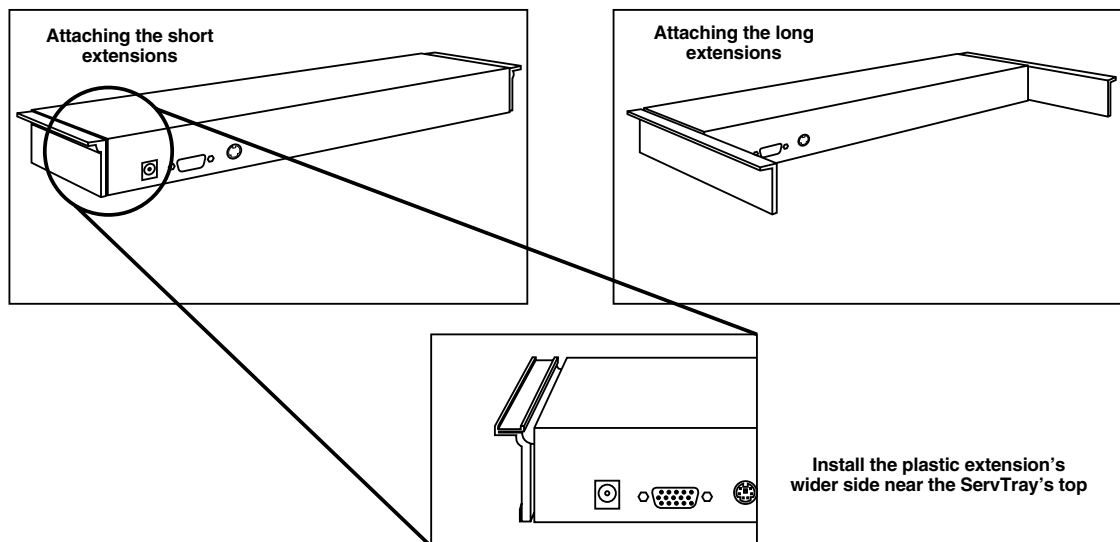

Figure 3-6. Attaching the extensions to the KVM module.
6. Attach the extensions (from the Rear Bracket Extension Kit) to both KVM module sides. Attach either the short or long extensions, as shown in Figure 3-6.